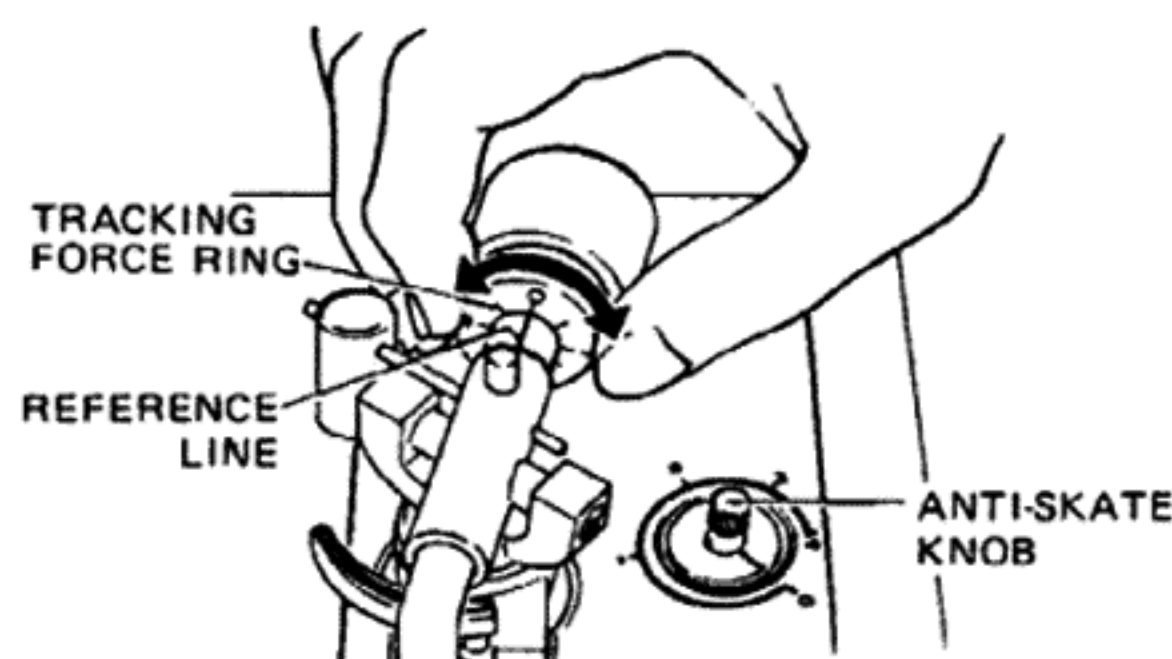

Fig. 14
7. Since the tonearm is balanced, the tracking force is zero, so turn the tracking force ring at the front of the counterweight (taking care not to disturb the counterweight) to align the 0 with the reference line (Fig. 14).